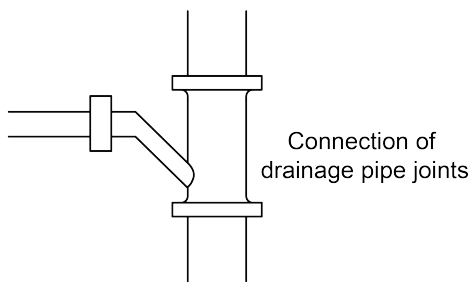

Fig.4.3.7
- (8) Horizontal pipe can't be connected to the vertical pipe at the same horizontal height. Please see below figure for the connection method:
- No.1: Three-way connection of drainage hose joint as shown in Fig.4.3.7;